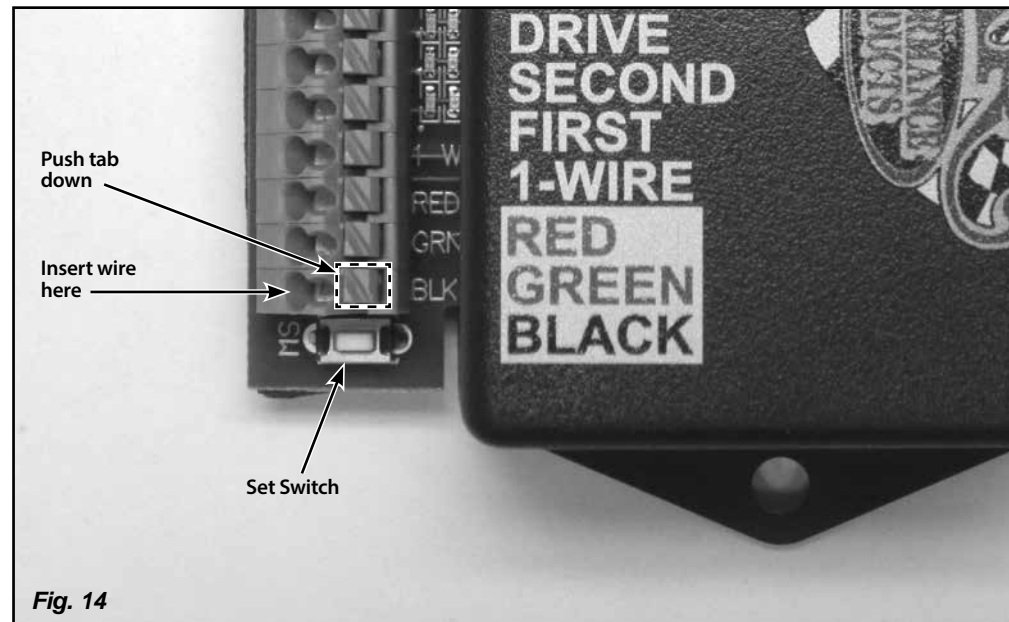

Fig. 14
The sensor has a 10 foot long gray cable attached to it. This cable contains 3 wires which connect to the decoder box. To connect the wires to the decoder box, push down on the tab to insert the wire into the terminal on the decoder box. **Fig. 14** Connect the red wire to the terminal marked RED. Connect the green wire to the terminal marked GREEN. Connect the black wire to the terminal marked BLACK.
**Step 2:** Press and hold the set switch. **Fig. 14** Turn the ignition key on while holding the set switch down. Then, release the set switch.